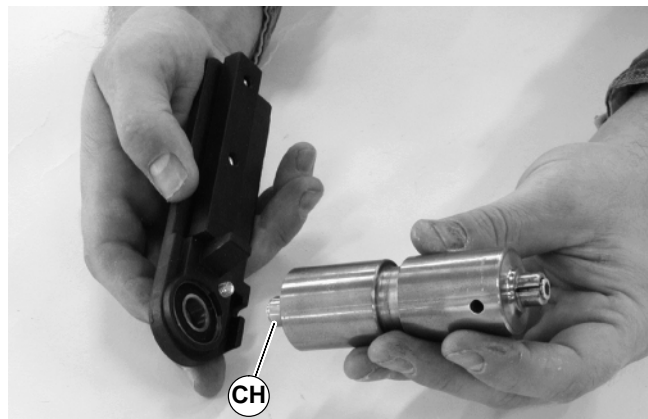

Figure 50
1. With bearing installed in head plate, press bearing on to shaft (CH of Figure 50) of pulley. Repeat for both sides of pulley.